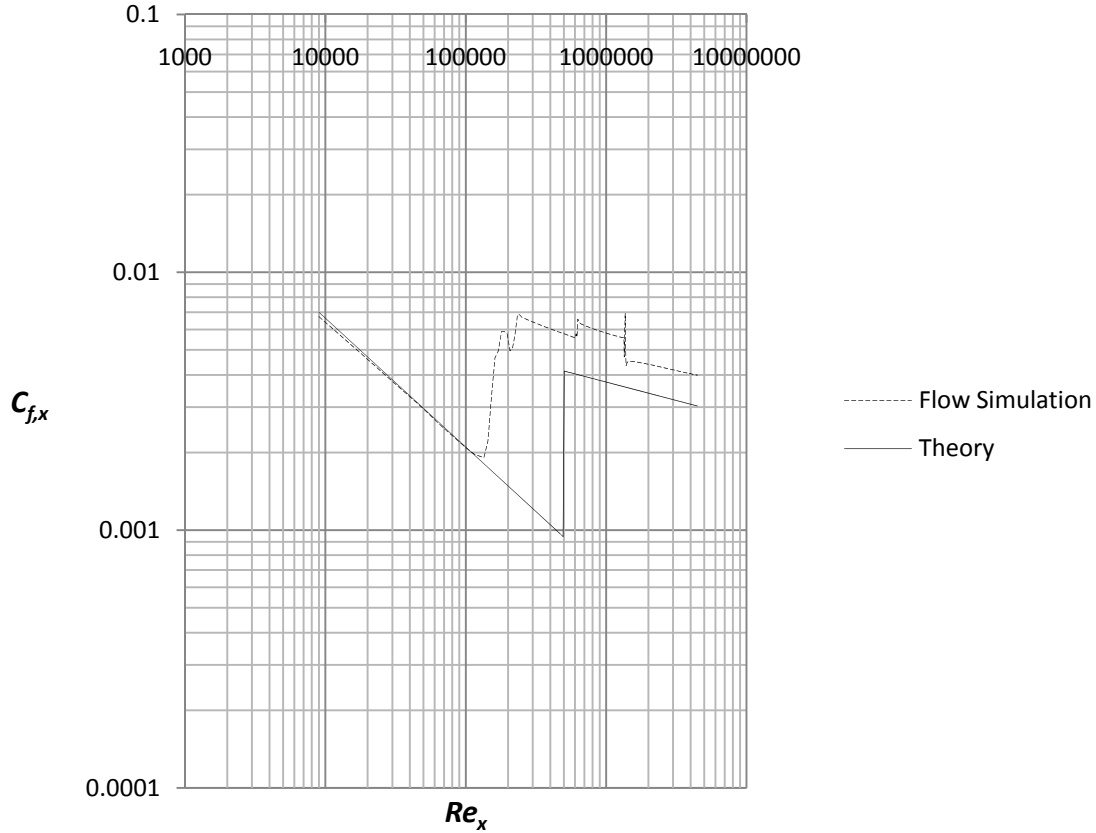

Figure 2.32 A comparison between Flow Simulation (dashed line) and theoretical laminar and empirical turbulent friction coefficients
34. Place the file “xy-plot figure 2.32” into the **Local Disk (C:)/Program Files /SolidWorks (2)/SolidWorks Flow Simulation/lang/english/template/XY-Plots** folder to make it available in the **Template** list. Repeat step 24 and choose the sketch $x = 0 - 0.9$ m, uncheck the box for **X-Velocity** and check the box for **Shear Stress**. Rename the xy-plot to **Local Friction Coefficient for Laminar and Turbulent Boundary Layer**. An Excel file will open with figure 2.32. Figure 2.32 is showing the Flow Simulation is able to capture the local friction coefficient in the laminar region in the Reynolds number range 10,000 – 150,000. At $Re = 150,000$ there is an abrupt increase in the friction coefficient caused by laminar to turbulent transition. In the turbulent